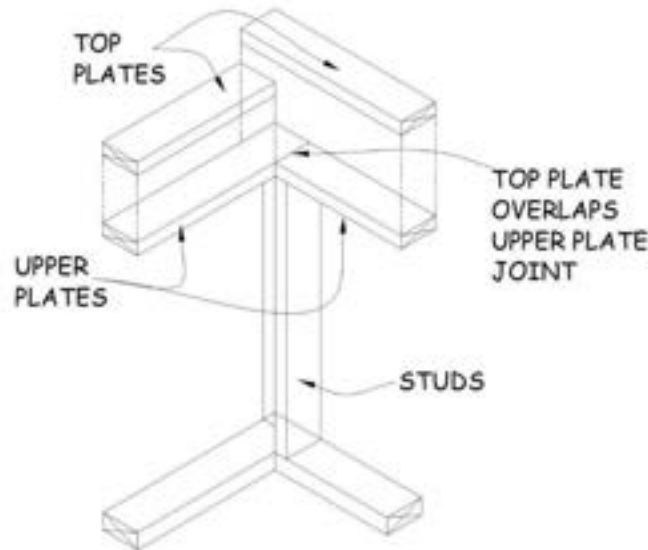

Figure 5-8. Interior Wall Top Plate Installation.
6. When nailing top plates, use three 3¼" collated nails or 16d nails across 2x6 plates and two 3¼" collated nails or 16d nails across 2x4 plates. Nail at each intersection of top plates and nail at each stud location. Note that the top plates at an intersection overlap the joints of the walls below (see Figure 5-8).